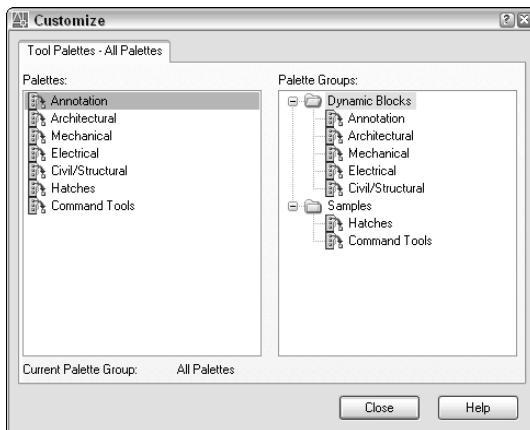

Figure 29-11: The Tool Palettes tab of the Customize dialog box.
To customize tool palettes, choose **Tools** ⇨ **Customize** ⇨ **Tool Palettes** to display the Customize dialog box, shown in Figure 29-11. The current tool palettes are listed. Remember that each tab on the Tool Palette window is considered a separate tool palette.
- ♦ **Organize tool palettes into groups:** In the Palette Groups area, right-click and choose New Group. Enter a name for the group and press Enter. From the Tool Palettes list on the left side of the dialog box, drag one or more tool palettes under the group name on the right, as you see in Figure 29-11. Note that the tool palettes now come with a large number of dynamic blocks.